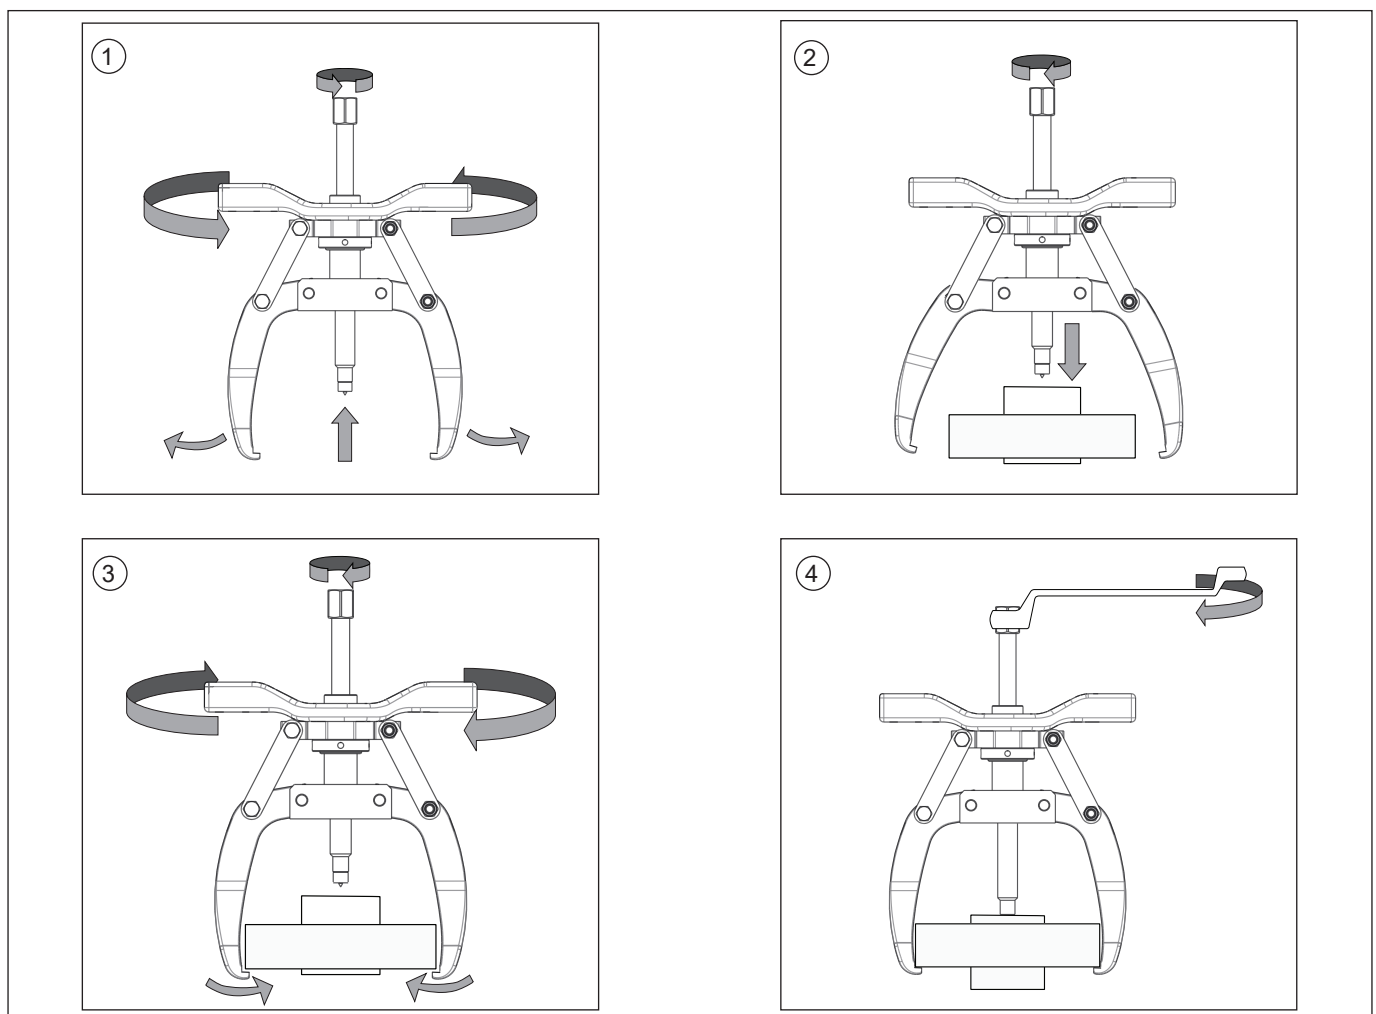

Figure 3, Puller Installation Steps
1. Rotate the spindle to adjust the spindle height up or down. Rotate the handle to increase or decrease the jaw opening. Open jaws and retract spindle sufficiently to place it over the workpiece. Refer to Figure 3, views 1 through 4, during the following steps.